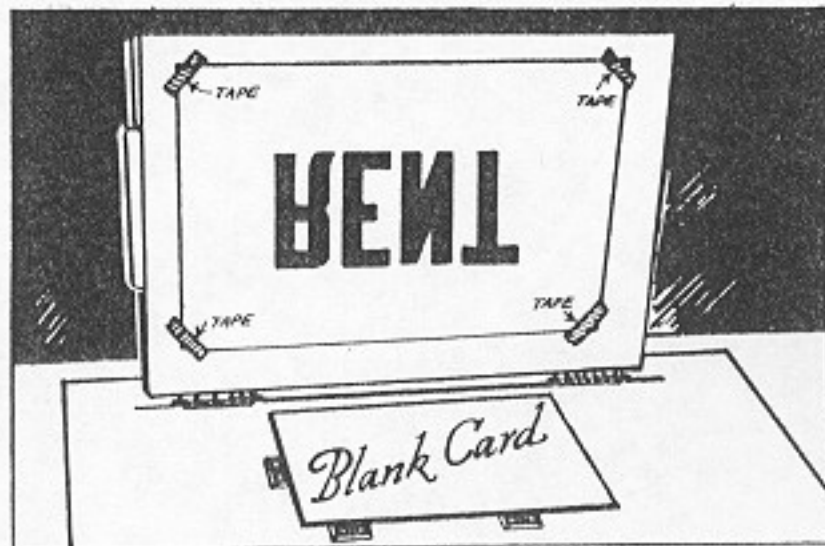

Fig. 79. Blank Card in Position for Printing
7. Place a blank card in proper position for printing, Fig. 79. Lower the screen and force the color through the screen by passing the squeegee over the surface.